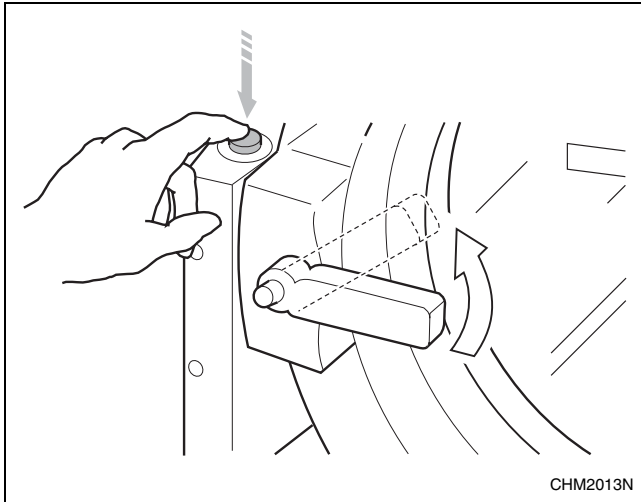

Figure 4
2. Use left hand to press and hold door unlock button located on top left of door lock box. Refer to *Figure 4*.
3. Turn handle counterclockwise to open. Refer to *Figure 4*.